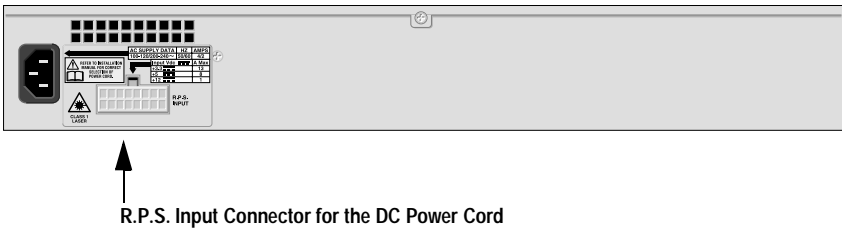

Figure 5 Back Panel of the Ethernet Switch
- Connect the other end of the DC power cord to the R.P.S. Input connector on the back panel of the Ethernet switch. (Refer to Figure 5 for the R.P.S. Input connector.)
4. Attach the other end of the DC power cord to the R.P.S. Input connector on the back panel of the Ethernet switch. (Refer to Figure 5 for the R.P.S. Input connector.)